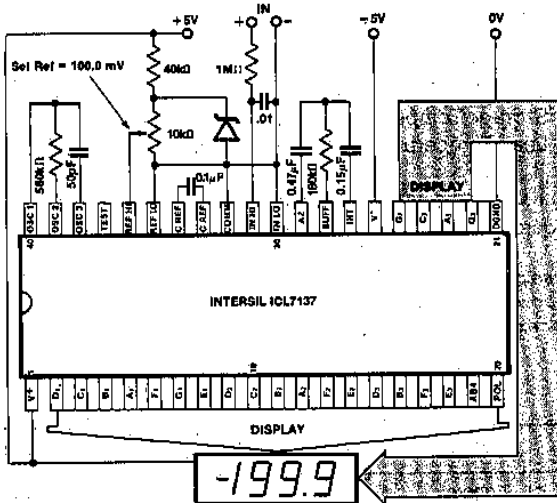

Figure 1. 7137 Clock Frequency 16kHz (1 reading/sec)
**Note 3:** Unless otherwise noted, specifications apply at  $T_A = 25^\circ C$ ,  $f_{clock} = 16kHz$  and are tested in the circuit of Figure 1.